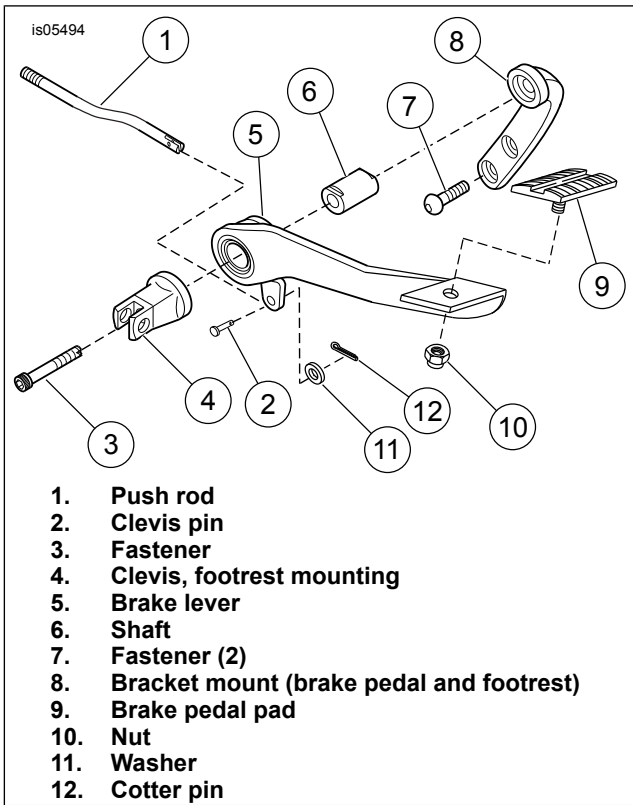
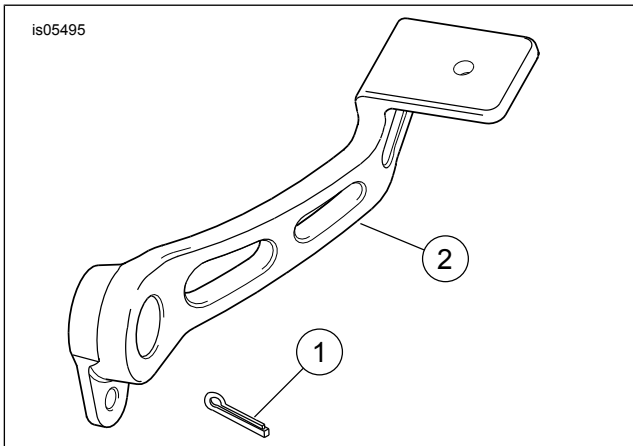

Figure 1. Stock Brake Lever (2003-2005 Models Shown)
Figure 2. Service Parts: Billet-Style Rear Brake Lever
See Figure 2 and Table 1.
1. See Figure 1. Remove cotter pin (12) and washer (11) from clevis pin (2). If necessary, use a pliers to remove cotter pin. Discard cotter pin.
3. Remove clevis pin (2) from the push rod (1). Thoroughly clean and examine clevis pin assembly for wear. Replace if necessary.
4. Remove brake lever mounting fastener (3) and footrest mounting clevis (4) from bracket mount (8). Save all hardware for assembly.
5. Remove and save the brake pedal pad (9) and nut (10), if equipped. Discard brake lever (5). For 2006 and later models, also discard the OE brake pedal pad.
6. Thoroughly clean the lever mounting shaft (6) of grease and dirt.
1. See Figure 2. Install billet-style brake lever (2) onto shaft.
2. See Figure 1. Align the brake lever shaft and footrest mounting clevis (4) and secure to bracket mount (8) with fastener (3). Tighten fastener to 43–47 N·m (32–35 ft-lbs).
3. Align clevis holes and insert clevis pin (2) (removed earlier). If clevis pin is a press-fit, tap it in gently while supporting the mating clevis of the master cylinder.
4. Install washer (11) as shown and insert new cotter pin (item 1, Figure 2) to secure clevis pin (2).
5. **For 2003-2005 Models:** Install brake pad (9) to brake lever with nut (10). Tighten securely. **For 2006 and Later Models:** Install new brake pad (9) of your choice.